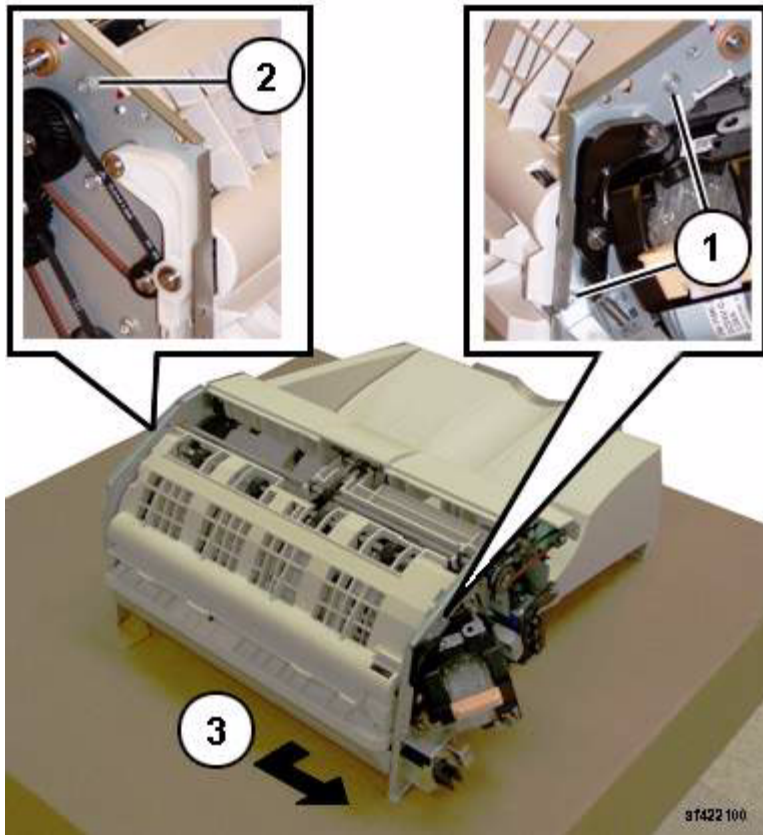

Figure 2 Removing the Upper Chute Assembly
8. Remove the Upper Chute Assembly (Figure 2):